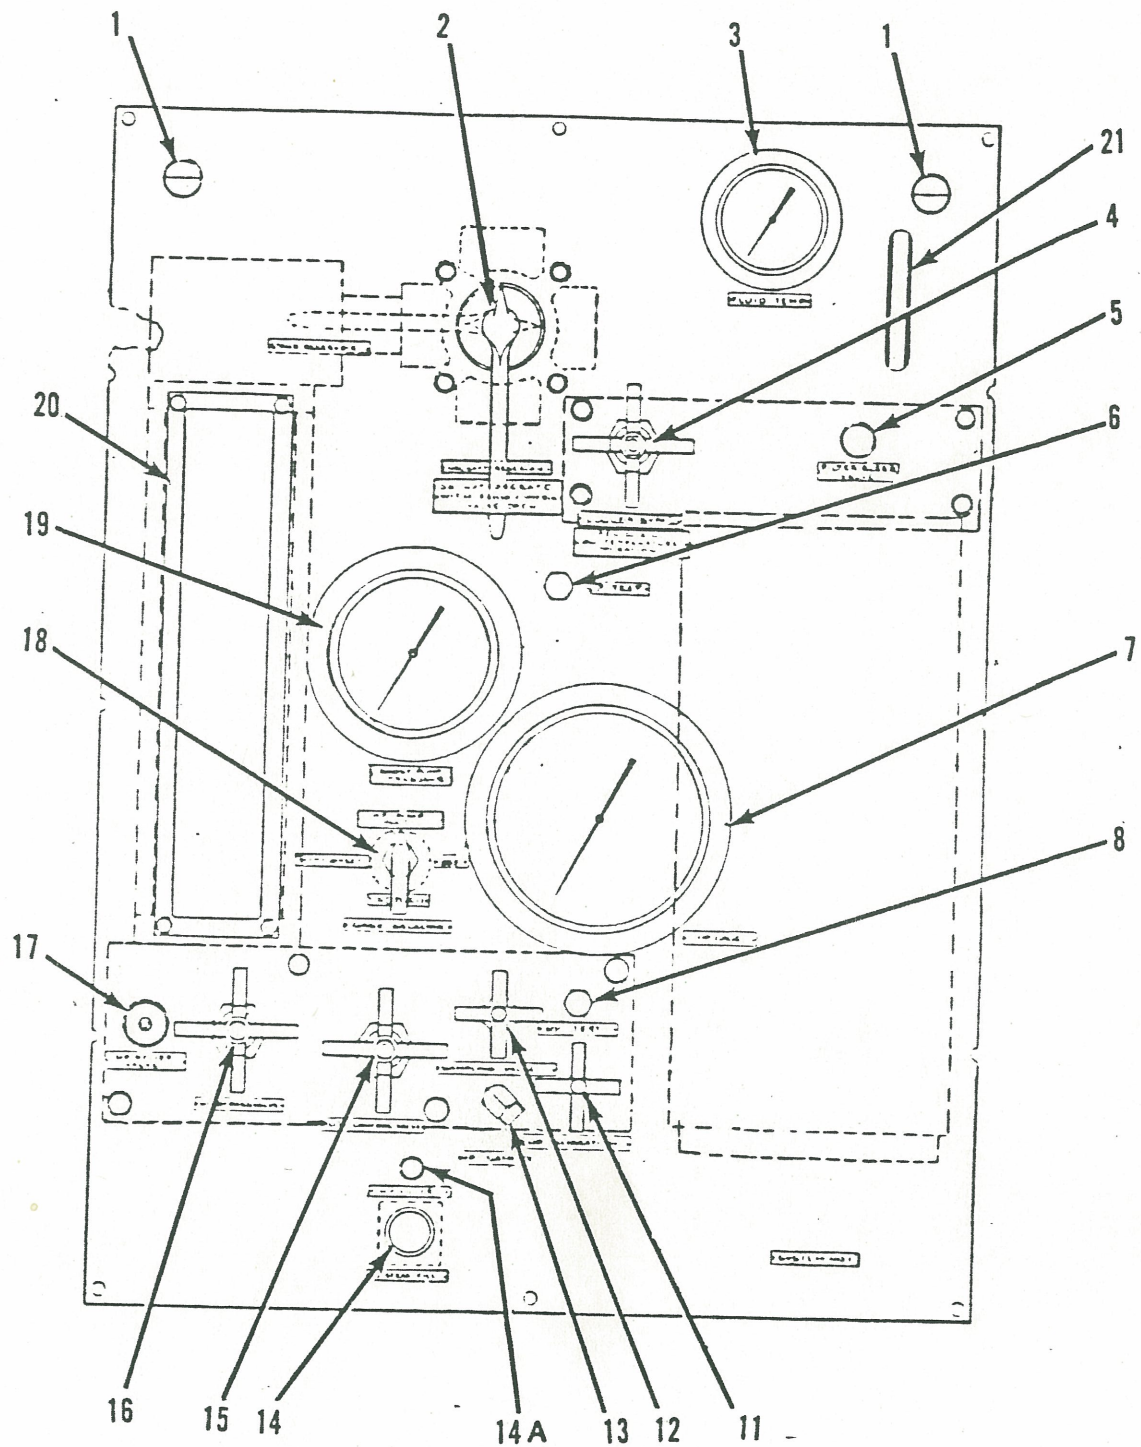

Figure 4-2. Control Panel Controls and Instruments
| a. H.P. GAGE SHUT-OFF valve (11, Figure 4-2) | 1/4 turn from full closed         | CW to close then CCW 1/4 turn. |
| b. GAGE SELECTOR valve (18, Figure 4-2)      | HP pump inlet                     | Select                         |
| d. | FLOW CONTROL Valve(15, Figure 4-2)      | Closed                                               | Rotate CCW    |
| e. | HP RELIEF VALVE(17, Figure 4-2)         | Lowest pressuresetting                           | Rotate CCW    |
| g. | HP BYPASS Valve(16, Figure 4-2)         | Open                                                 | Rotate CW     |
| h. | RESERVOIR SELECTORValve (2, Figure 4-2) | "Stand Reservoir"                                    | Select        |
- f. Push FILL PUMP ON push button (14, Figure 4-2)
- g. Press and hold FILTER BLEED valve (5) until system is free of air (bubbles) as shown on sight gage.
- h. Release FILL PUMP ON pushbutton (14) when L.P. Gage indicates approximately 80 psi.
Do not impose a load of high pressure pumps when starting engine. HP BYPASS VALVE (16, Figure 4-2) shall be open at starting.
f. Press FILTER BLEED valve (5, Figure 4-2) to free system of trapped air.
Any fluid bled from systems must be replaced using fill pump and fill valve. Monitor system pressure on compound gage (21, Figure 4-1) with gage selector valve (18, Figure 4-2)
- b. Open FLOW CONTROL valve (15, Figure 4-2).
- c. Slowly close HP BYPASS valve (16).
- e. Observe output pressure HP GAGE (7), for reading of 100 to 500 psig.
- f. Check condition of flow in flowmeter (20). If air is still present, bleed system per preceeding step d.